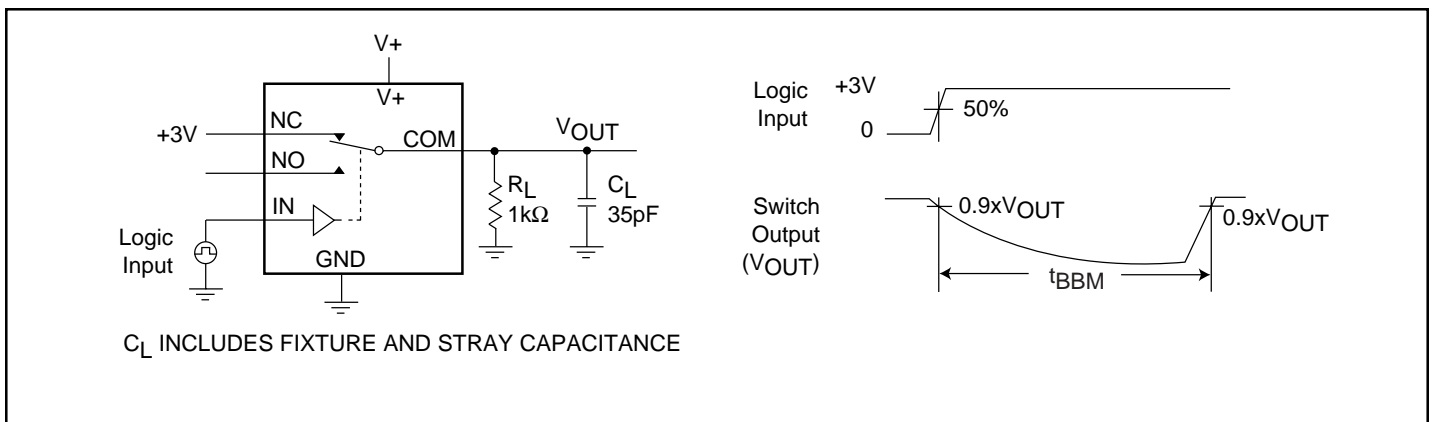

Figure 3. Break-Before-Make Interval
7. Off Isolation = 20log₁₀ [V_{COM} / (V_{NO} or V_{NC})]. See Figure 3.